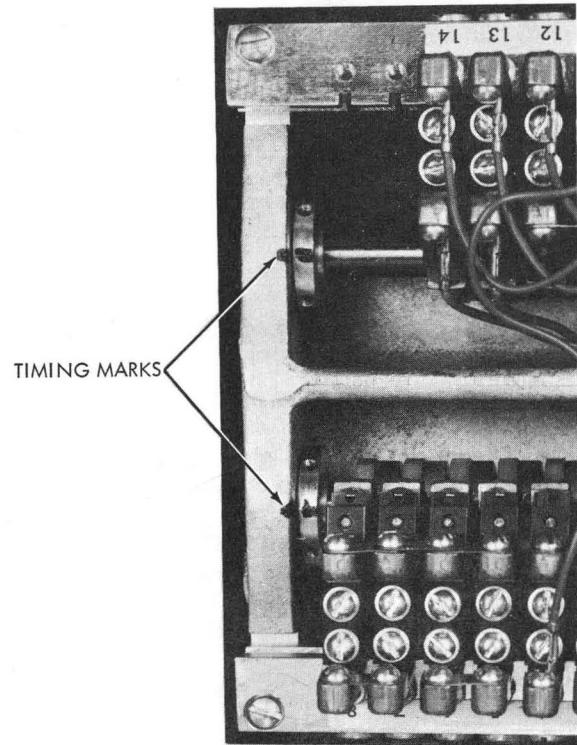

Figure 5-3. PACB Timing Marks
3. Slip the new belt on and reinstall white nylon gear. Be sure timing marks are rematched. NOTE: On the PACB shafts there are two collars; each has a scribed line. There are also two scribed lines on the casting which will coincide with the collar lines at 0° on the punch index (Figure 5-3). Set the two CB shaft lines to line up with the scribed lines on the casting, set the punch index on 0° , then slip the PACB belt over the punch pulley. If care is taken the PACB unit can be tightened and both units will be in time.
(8) Second Stepped Feed Roll Drive Belt